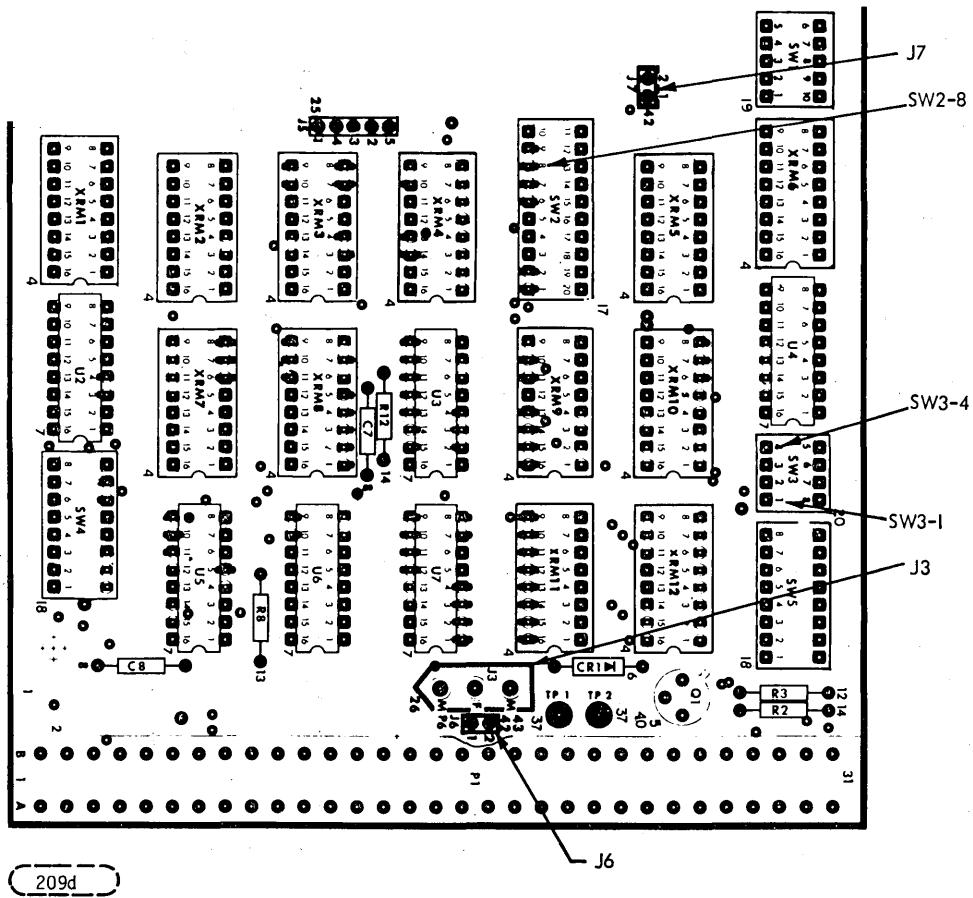

FIGURE 5-2. TERMINATOR CHIPS
- connecting a special terminator plug (Refer to Figure 5-2), or
- installing terminator chips on the I/O board. (Refer to Figure 5-2).